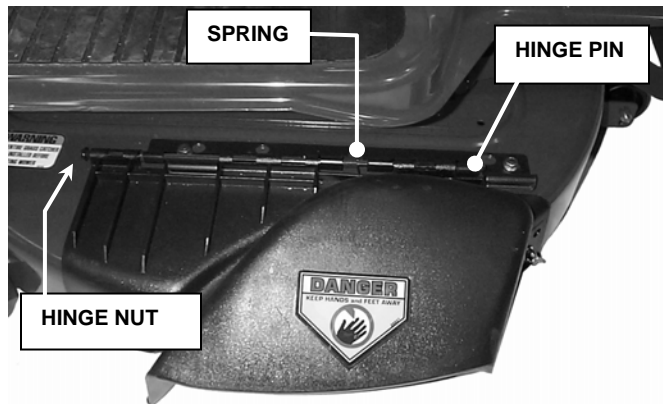

FIGURE 1.12
- B. Remove Hinge nut, Spring, and Hinge Pin. Remove Deflector. Save for future use. See Figure 1.12.